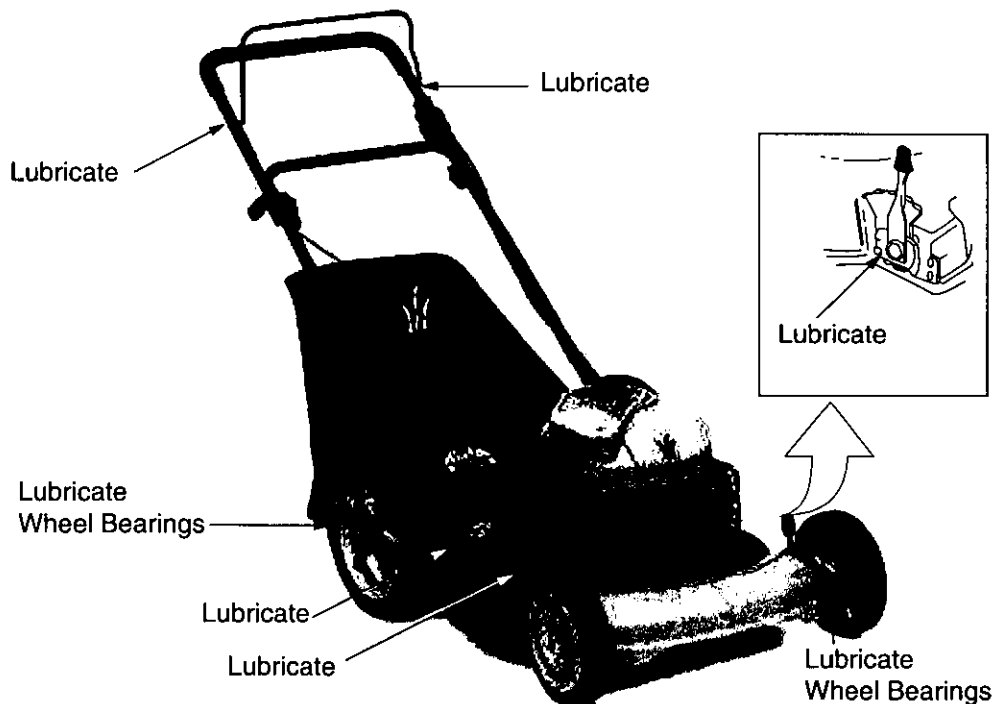

FIGURE 11
For complete lubrication chart, see Figure 11.
- Lubricate mower following the lubrication chart in Figure 11 on page 13.